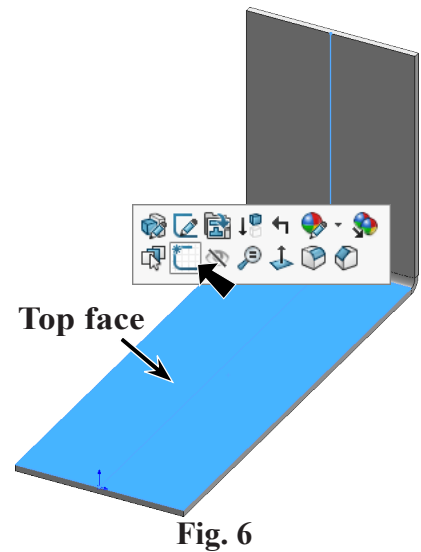
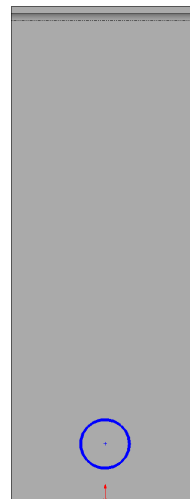

Fig. 6
Fig. 7
Step 1. Click the **top face** and click **Sketch**  on the context toolbar, **Fig. 6**.
Step 3. Click **Circle**  (S) on the Sketch toolbar.
Step 4. Draw circle for hole, **Fig. 7**.